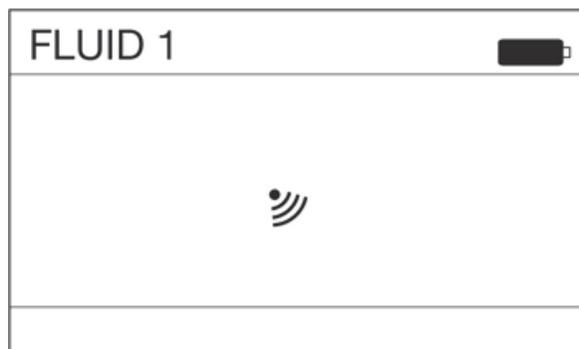

FIG. 55
1. Press the center ENTER button on the keypad to activate the meter, waking it from sleep mode. The screen shown in FIG. 55 displays.
**NOTE:** The screen in FIG. 55 only appears in Preset Mode the first time the meter is powered on. After the first power on, a meter in Preset Mode must be **RESET** to get to this screen. See **RESET** instructions, page 22.
1. Press the center ENTER button on the keypad to activate the meter. The screen shown in FIG. 55 displays.
2. Press the center ENTER button on the keypad a second time to bypass the screen in FIG. 55. The Main Menu screen shown in FIG. 69 displays.